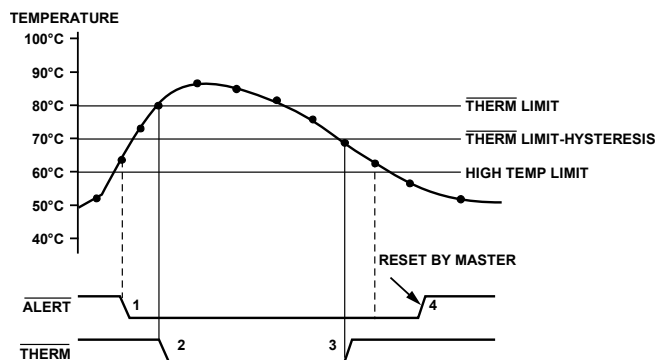

Figure 21. Operation of the  $\overline{\text{ALERT}}$  and  $\overline{\text{THERM}}$  Interrupts
Figure 21 shows how the  $\overline{\text{THERM}}$  and  $\overline{\text{ALERT}}$  outputs operate. If desired, use the  $\overline{\text{ALERT}}$  output as a  $\overline{\text{SMBALERT}}$  to signal to the host via the SMBus that the temperature has risen. Use the  $\overline{\text{THERM}}$  output to turn on a fan to cool the system, if the temperature continues to increase. This method ensures that there is a fail-safe mechanism to cool the system, without the need for host intervention.
3. The  $\overline{\text{THERM}}$  output de-asserts (goes high) when the temperature falls to  $\overline{\text{THERM}}$  limit minus hysteresis. In Figure 21, the default hysteresis value of 10°C is shown.